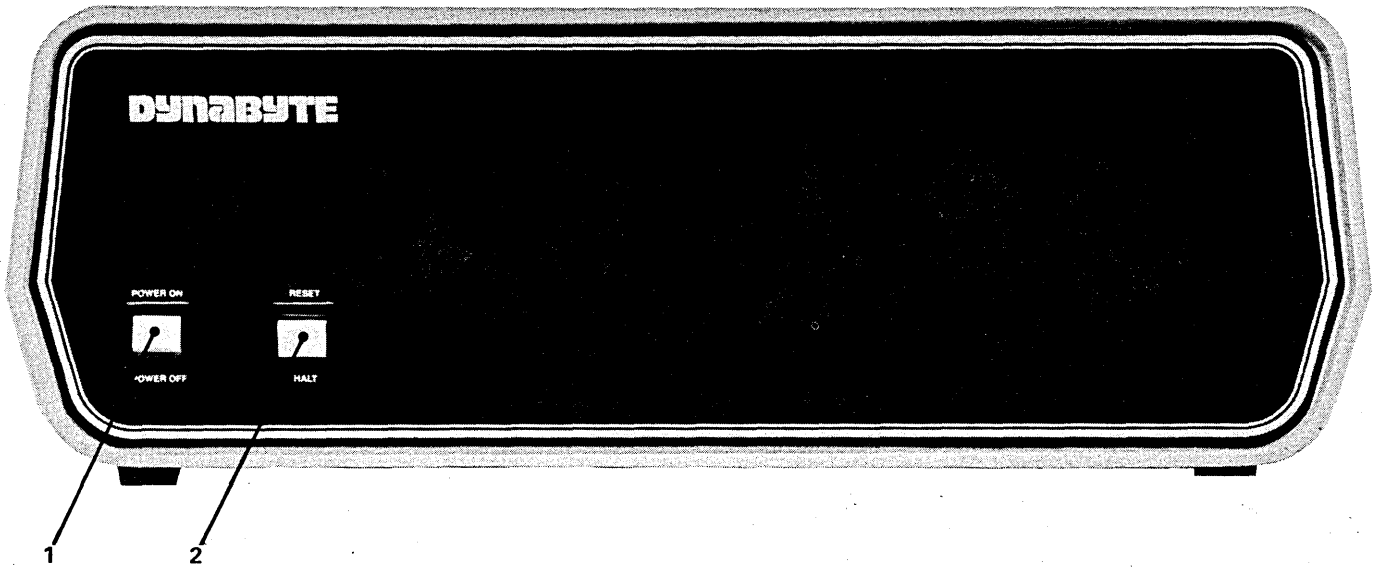

Figure 2-1 – 5100 Computer – Front Panel – 801387
2.04 Figures 2-1 through 2-3 provide number key callouts of all components located on the front, rear and interior of the 5100. Associated Tables 2-1 through 2-3 provide a cross reference for each callout, identifying the respective part as to function, description and/or designation.
2.05 Refer to Figure 2-1 for the description which follows. The 5100 Computer Front Panel has only two operating controls with which the user should be concerned.